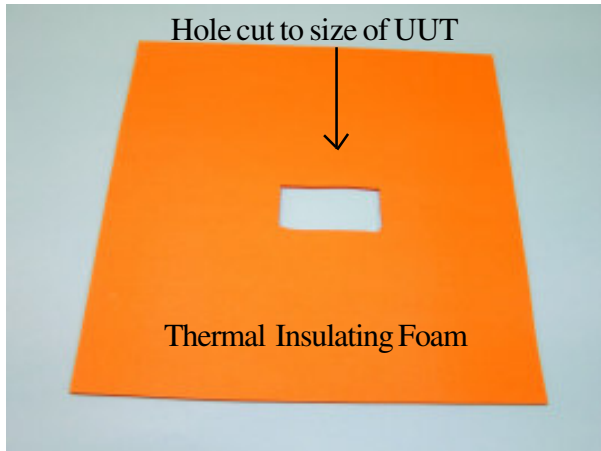

Figure 3
**STEP 1:** In order to thermally protect the other devices on the board, it is necessary to put a layer of non-conductive insulating foam on the board, with a hole cut to expose the two devices to be tested. This is shown in Figures 3 and 4.